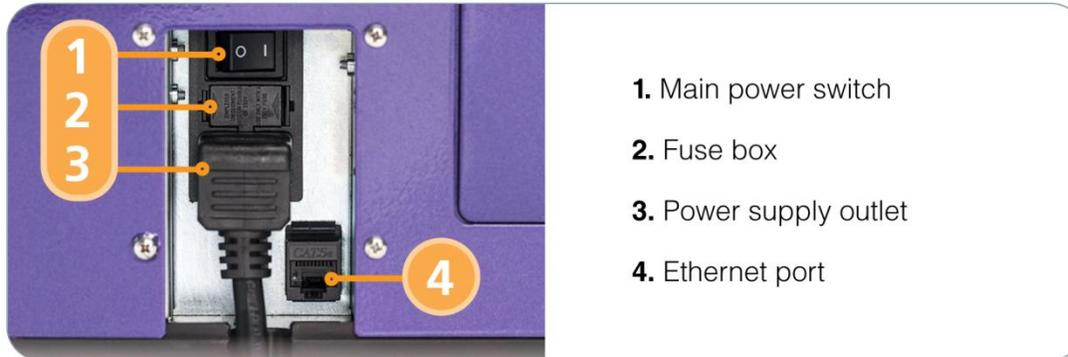

Figure 11. Power and Network Connections
Plug in the power cord provided with RoboSep™-S to the power supply outlet located on the back of the instrument (Figure 11), and connect it into a 3-prong, grounded AC outlet rated 2A 100 - 240 V. Do not use an adapter to a two-terminal outlet.
- An Ethernet port located on the back of the instrument (Figure 11)
1. Connect one end of a CAT-5 Ethernet cable (not provided) to the Ethernet port located on the back of RoboSep™-S (Figure 11) and the other end to a networked router. This will connect RoboSep™-S to your LAN.